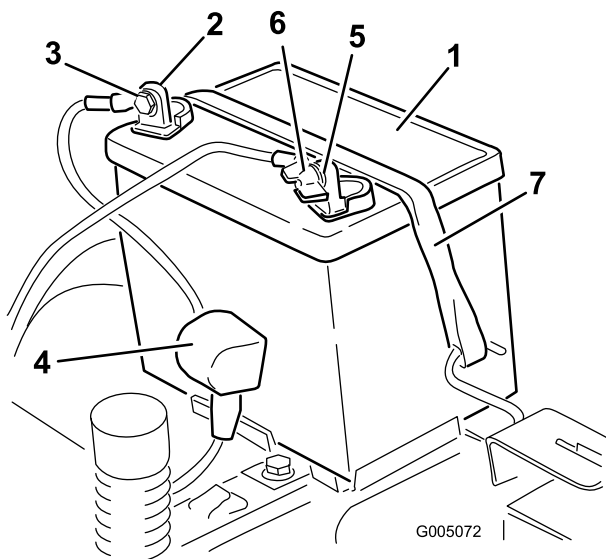

Figure 39
4. Disconnect the negative (black) ground cable from the battery post (Figure 39). Retain all fasteners.
5. Slide the rubber cover up the positive (red) cable. Disconnect the positive (red) cable from the battery post (Figure 39). Retain all fasteners.
6. Remove the battery hold-down (Figure 39) and lift the battery from the battery tray.
1. Position the battery in the tray with the terminal posts toward the operating position (Figure 39).
5. Secure the battery with the hold-down (Figure 39).